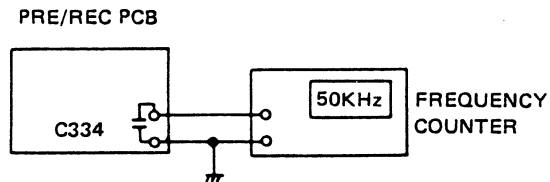

FIG. 7. RECORDING BIAS ADJUSTMENT
- Connect frequency counter to C334 (see Fig. 7) and set R/P switch (S3-0) to record position.